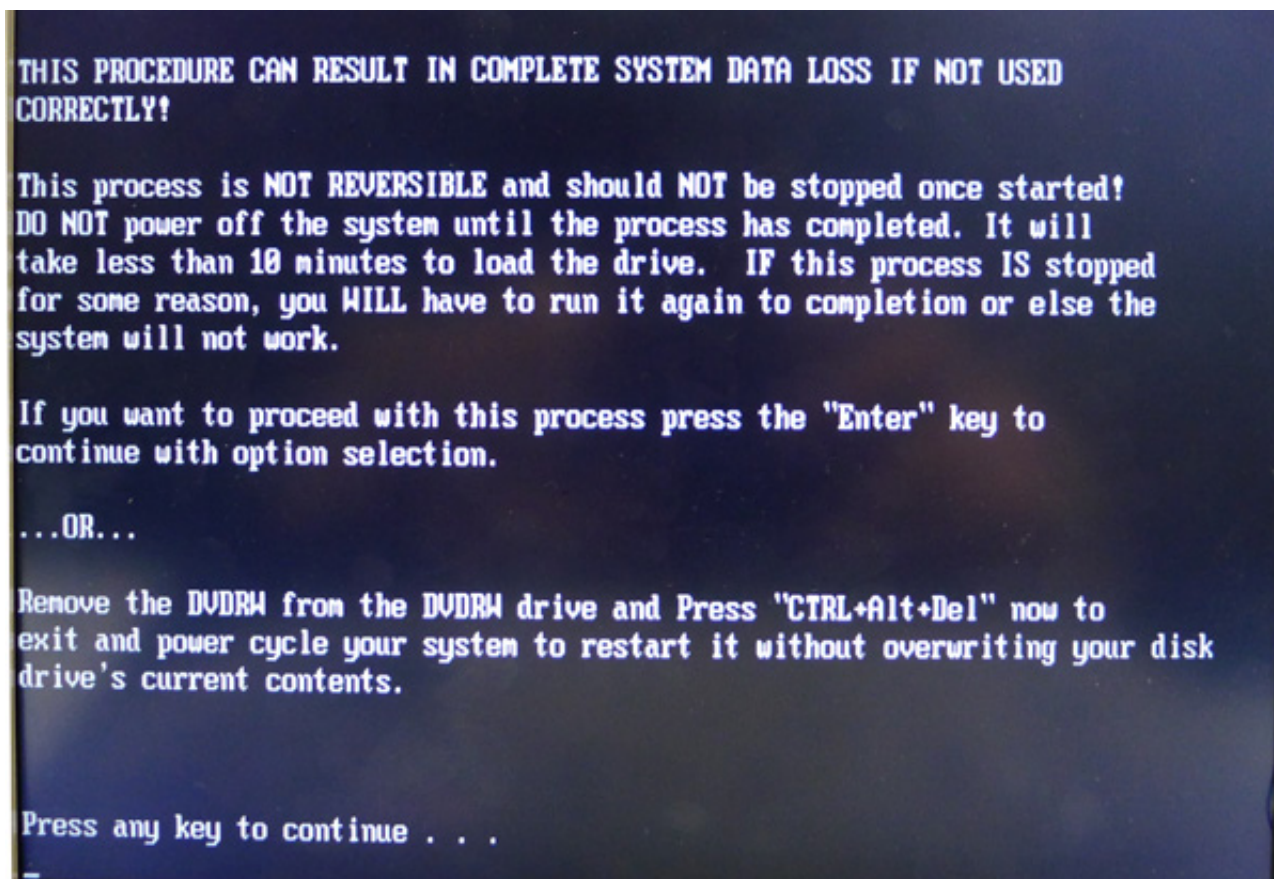

Figure 3-31 Software upgrade continuing
- 7.) Press any key on the keyboard to continue the steps when message displays as shown in Figure 3-31 on page 3-34